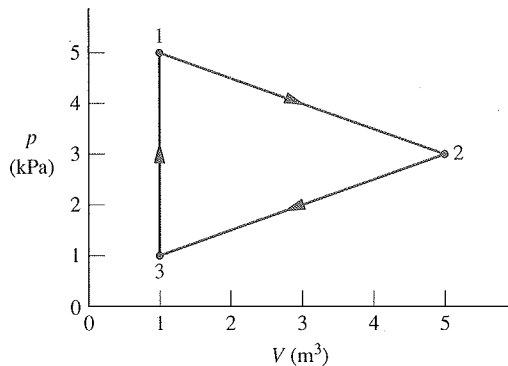

Fig. P2.76
2.76 Figure P2.76 shows a power cycle executed by a gas in a piston-cylinder assembly. For process 1-2, $U_2 - U_1 = 15$ kJ. For process 3-1, $Q_{31} = 10$ kJ. There are no changes in kinetic or potential energy. Determine (a) the work for each process, in kJ, (b) the heat transfer for processes 1-2 and 2-3, each in kJ, and (c) the thermal efficiency.